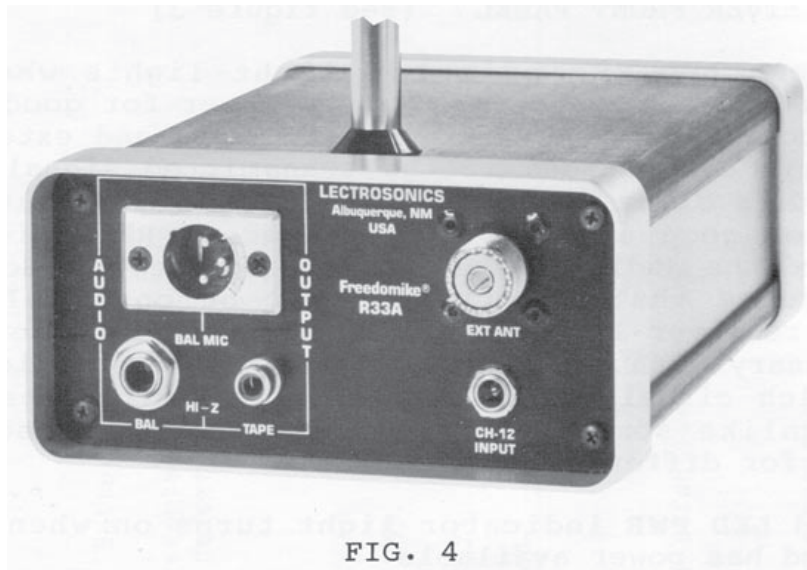

FIG. 4
5. R33 RECEIVER REAR PANEL (see figure 4)